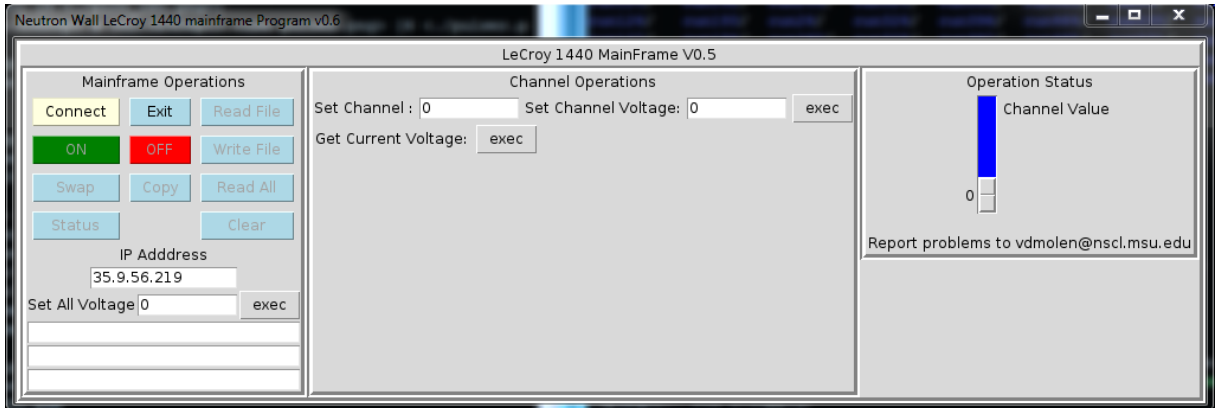

Figure 6: HV control window.
2. Type wish LeCroy1440.tcl and a GUI should appear (see Fig. 6).